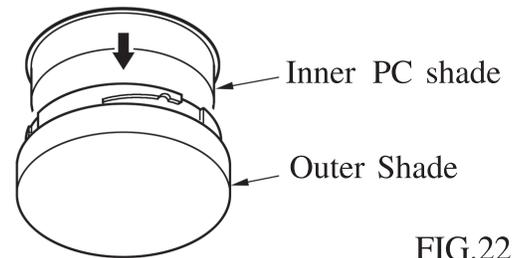

FIG.22
6. Place the inner white PC shade into the outer clear shade.(See. fig.22)